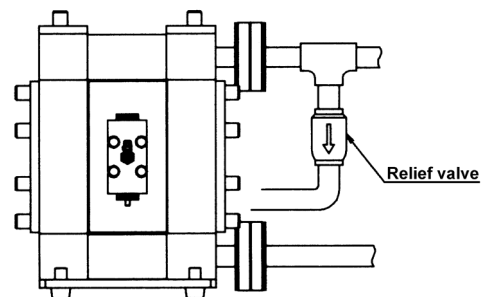

Fig. 4.2
- If, depending upon the place of pump installation, the volume of the pumped fluid changes drastically, install a relief valve on the discharge side, and bring the pressure down below the maximum permissible value. (Refer to Fig. 4.2)